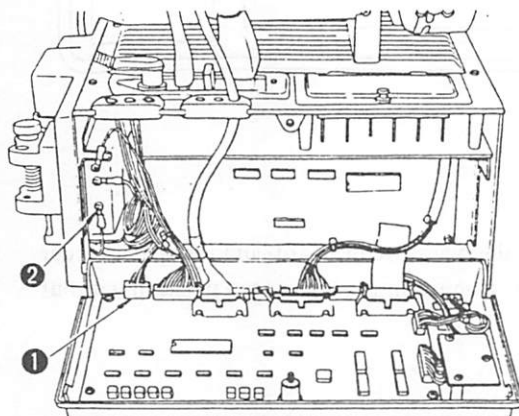

Fig. 5-3
- 2) Disconnect the 6P connector of the sensor potentiometer set (Fig. 5-3 ①) from the main circuit board. (The locking device is installed in the connector housing, so push it open by hand, and pull it out.)
- 3) Remove the FG cord of the pedal (Fig. 5-3 ②) screwed on the main frame.